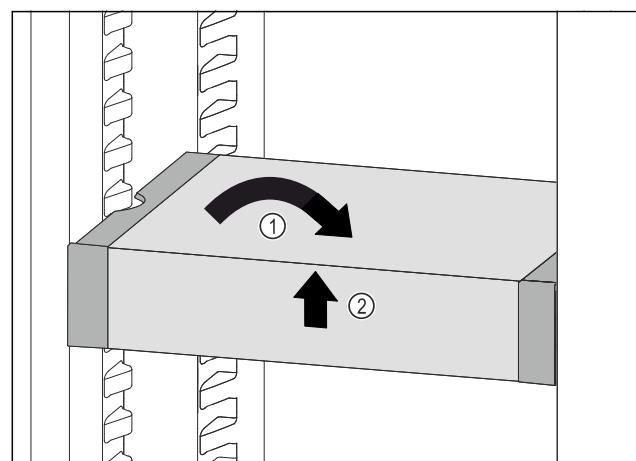

Fig. 85
- ▶ Set VarioSafe straight. Fig. 85 (1)
- ▶ Lift VarioSafe at the front. Fig. 85 (2)